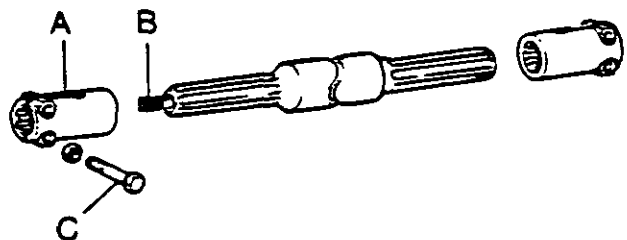

FIGURE 4 DRIVE SHAFT
2. Remove the bolts which clamp the splined sleeve to the bevel pinion shaft. Push the splined sleeve away from the bevel pinion shaft. See Figure 4.